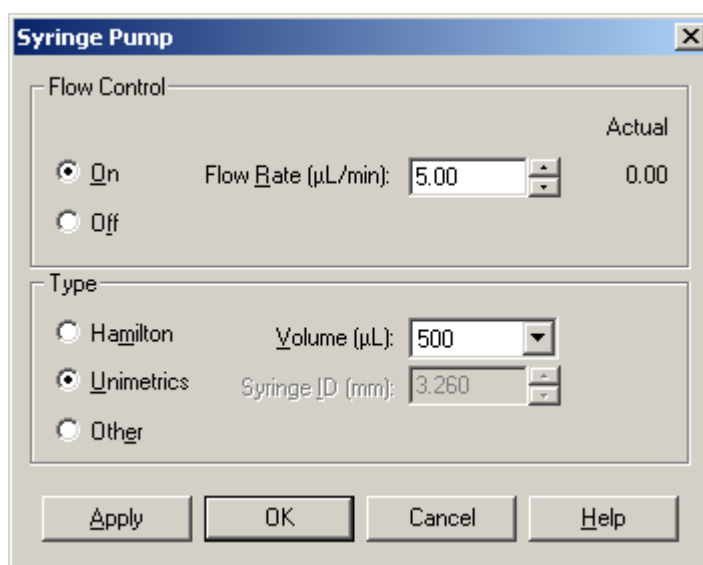

Figure 3-6. Syringe Pump dialog box
1. Click on the Syringe Pump button to display the Syringe Pump dialog box. See Figure 3-6.